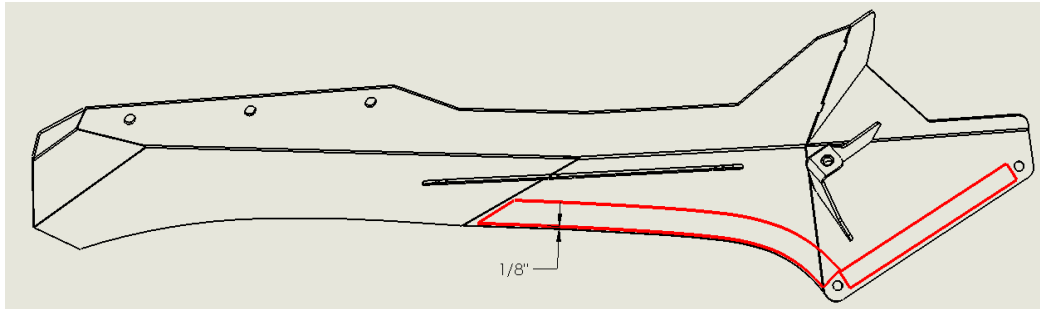

Fig 9
- d. Install the 1" neoprene rubber strip to the inside of both arms as shown in **Fig 9** highlighted areas.